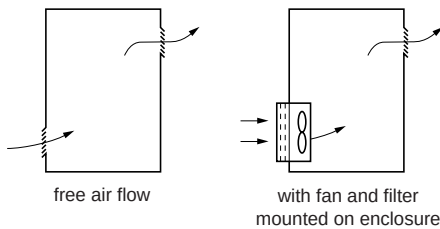

Figure 5: Ventilation for General Purpose Enclosures
- Provide ventilation inlets and outlets in the enclosure as shown in Figure 5.